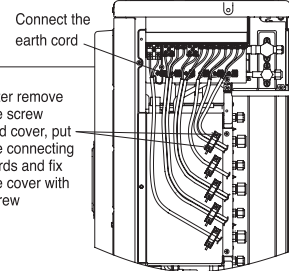

Fig. 3-3-2
- To avoid connecting cord scratch or clamp by side cover, it must be fix by band as shown in Fig. 3-3-2.